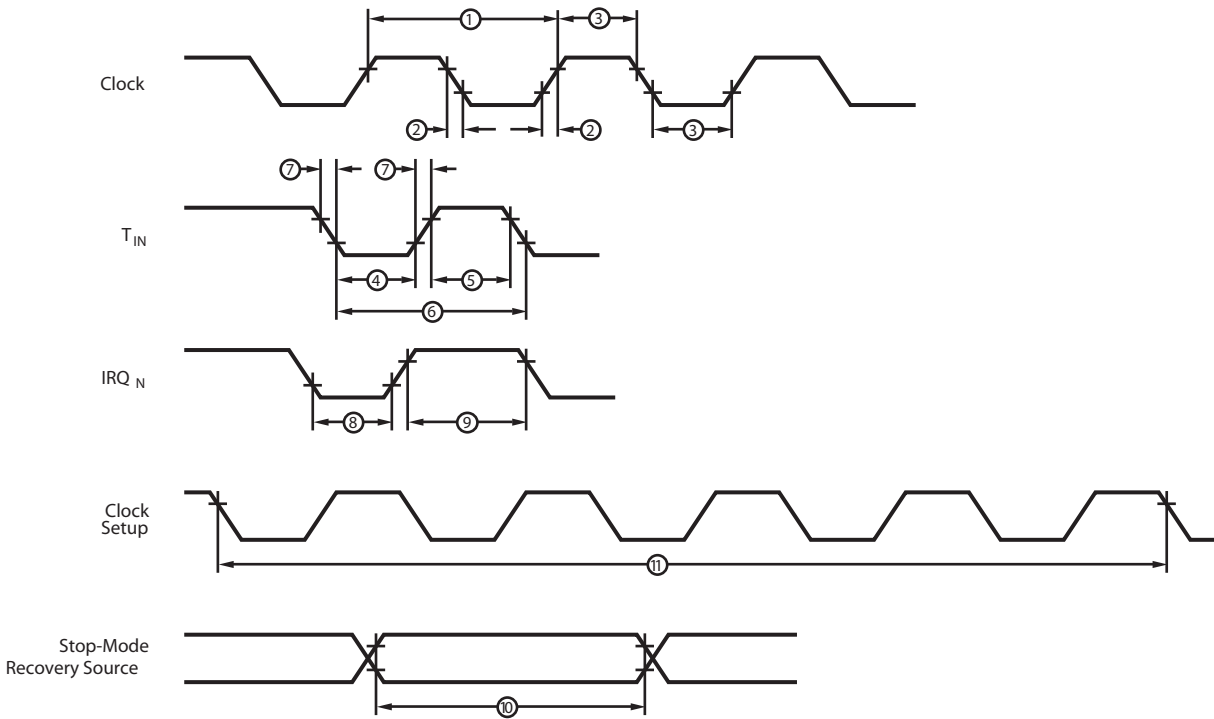

Figure 49. AC Timing Diagram
Figure 49 and Table 81 lists the alternating current (AC) characteristics of ZLF645 Flash MCU.